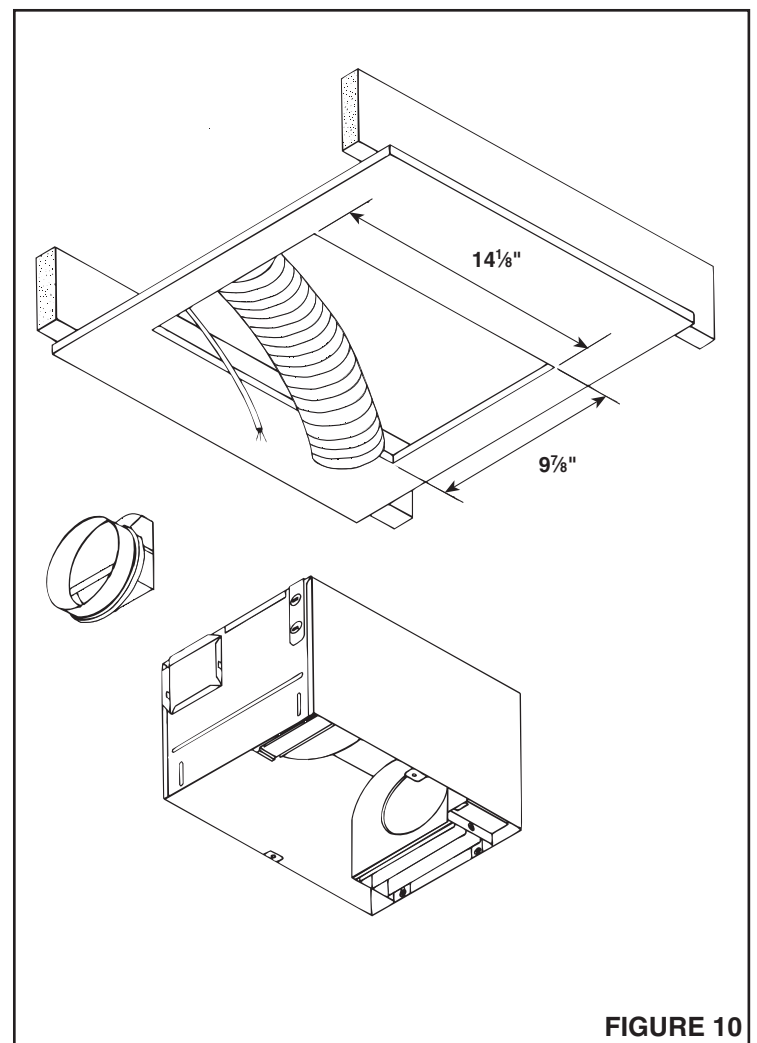

FIGURE 10
2. **Refer to Figure 10.** Mark ceiling for cutout. Cutout dimensions:  $14\frac{1}{8}$ " long x  $9\frac{7}{8}$ " wide. Make cutout in ceiling.